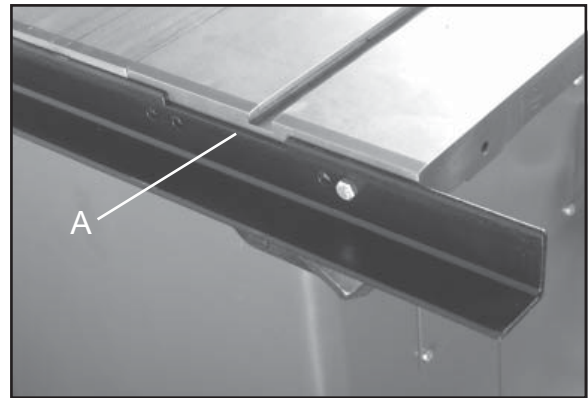

Figure 9
2. Align the rear fence rail so the right notch matches the miter slot on the left extension wing. (A-Fig. 9)